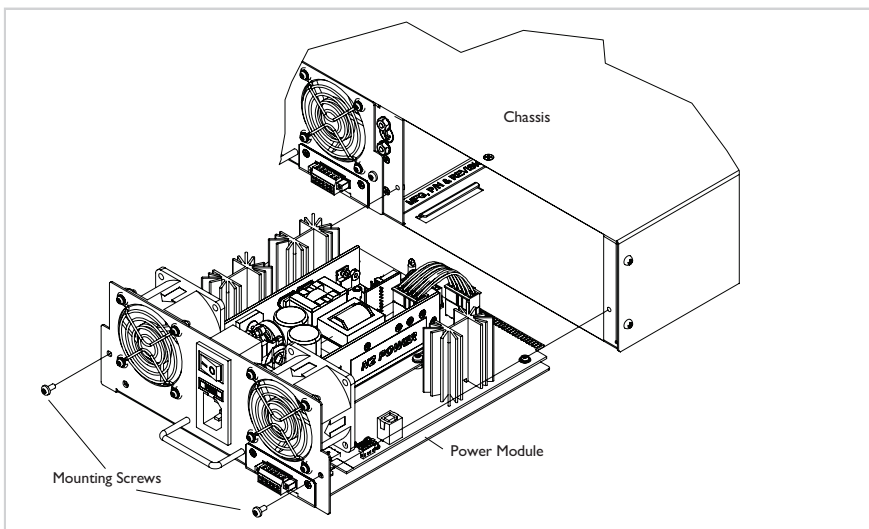

Figure 5: Power Module Installation
- Position the Power Module at the chassis slot, as shown in Figure 5.